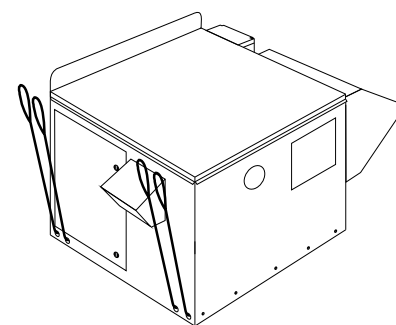

FIGURE 12. FläktGroup SEMCO SP unit should be lifted only by placing the lifting straps through lifting holes in the base of the unit.
- 5) Use the lifting straps to move the FläktGroup SEMCO SP Unit. Place lifting straps through lifting holes in base of FläktGroup SEMCO SP. **DO NOT** use the exhaust hood as a hand hold (See **FIGURE 12**). **CAUTION:** Do not leave the FläktGroup SEMCO SP unit unsupported during installation.